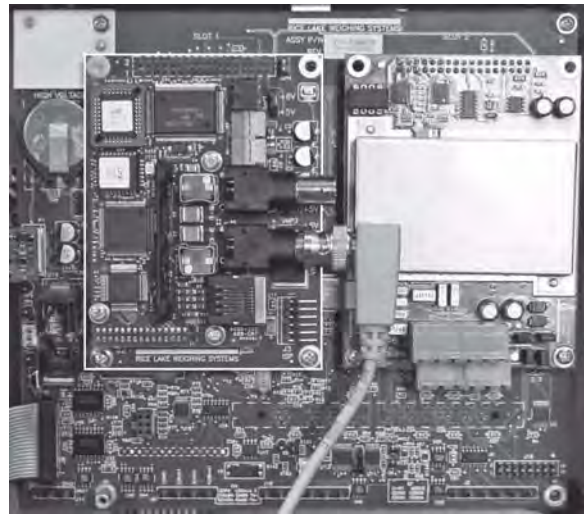

Figure 2-1. ControlNet Card (Card Edge Highlighted) Installed in 920i, Slot 1 (Connector J5).
3. Carefully align the large connector (J1) on the bus adapter card with connector J12 on the 720i, J6 on the 820i, or J5 on the 920i CPU board (see Figure 2-1). Press down to seat the bus adapter card in the CPU board connector.